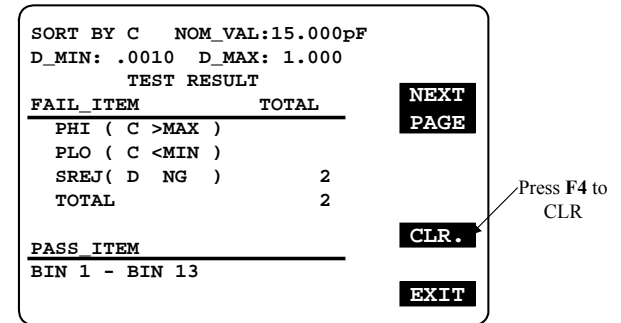

Figure 8-25
- Press **F4** key to delete test result (Figure 8-25).